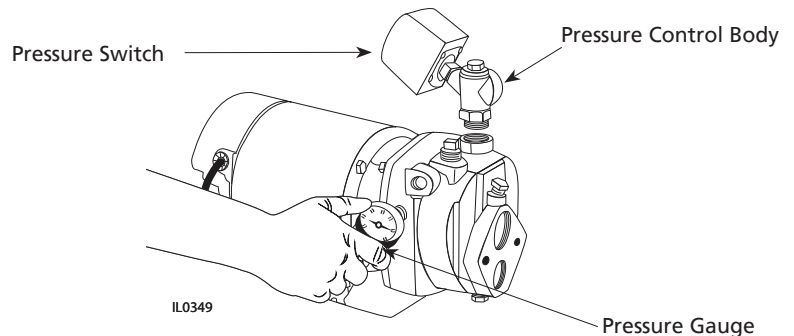

Figure 13 - Convertible Pump
1. Apply two wraps of Teflon® tape to threads of pressure control body and loosely assemble to discharge tapping of pump head (See Figure 13).
2. Apply two wraps of Teflon® tape to threads of pressure switch and screw into 1/4" tapping of pressure control body as shown in Figure 13. Hand tighten plus 1½ additional turns.
5. Using Teflon® tape, install pressure gauge in 1/4" tapping on side of pump body. Face of gauge should be positioned so that the dial can be read easily (See Figure 13).